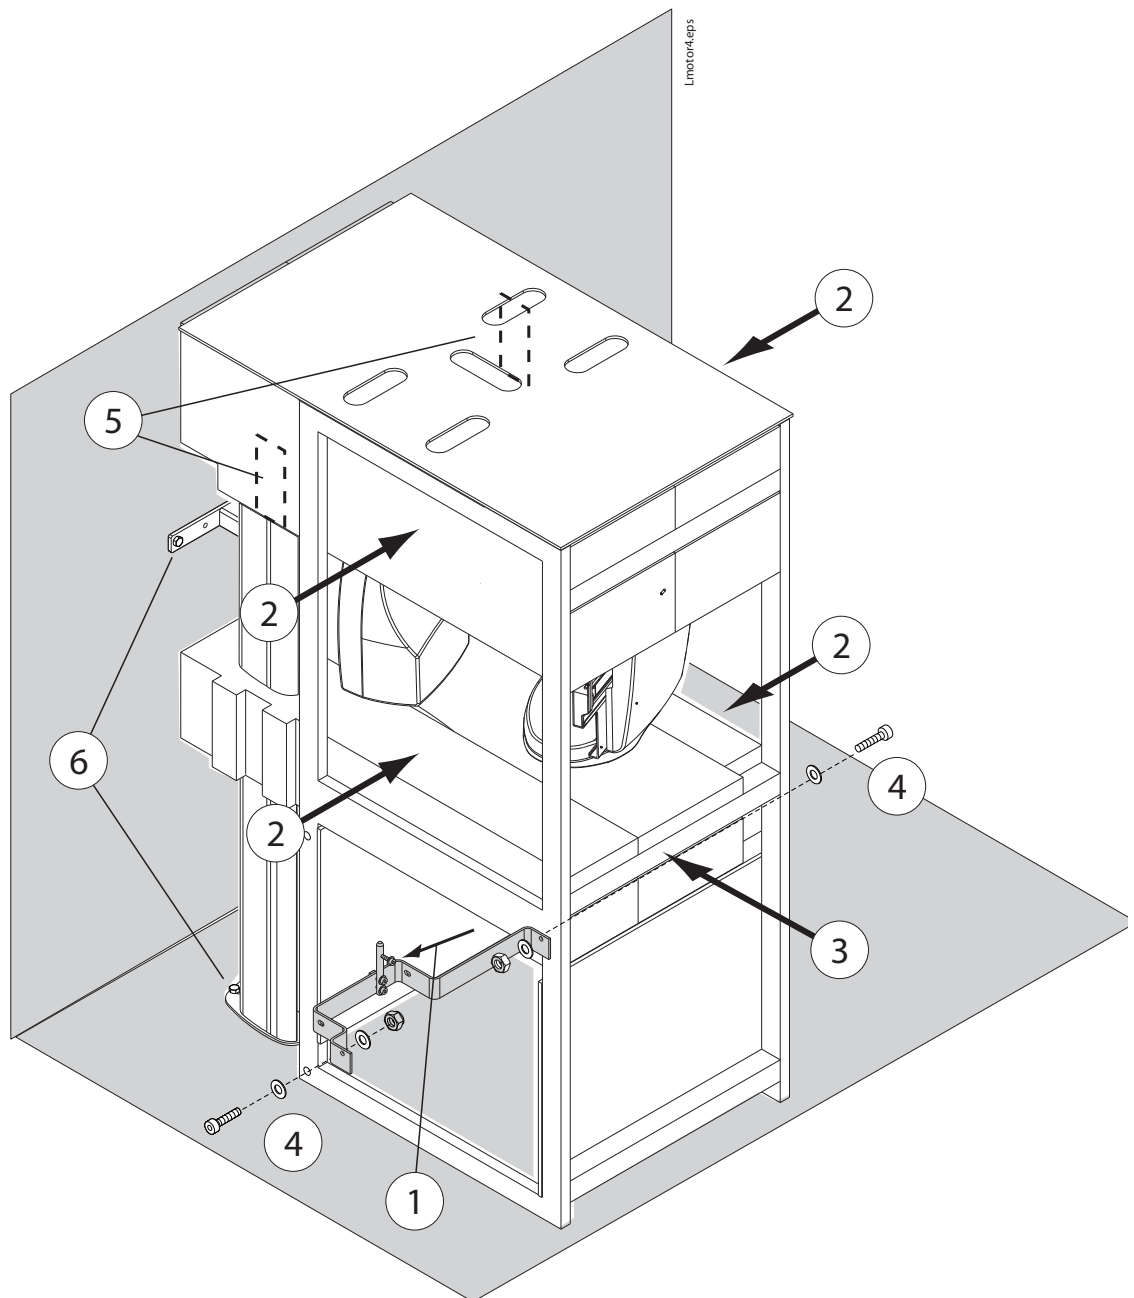

Figure 33
- 17) First attach the transportation support bar attachment pin to the telescopic column (Fig. 33, 1).
- 18) Attach the styrofoam pieces to the unit (Fig. 33, 2). Push the support frame over the styrofoam pieces (Fig. 33, 3). Attach the transportation pin to the support frame with the two M8x30 DIN 7984 screws (Fig. 33, 4). To be able to reach the guide assemblies, cut openings to the styrofoam pieces as shown on the Fig. 33 below (5).
- 19) Detach the wall bracket(s) from the wall and detach the unit from the floor (Fig. 33, 6).